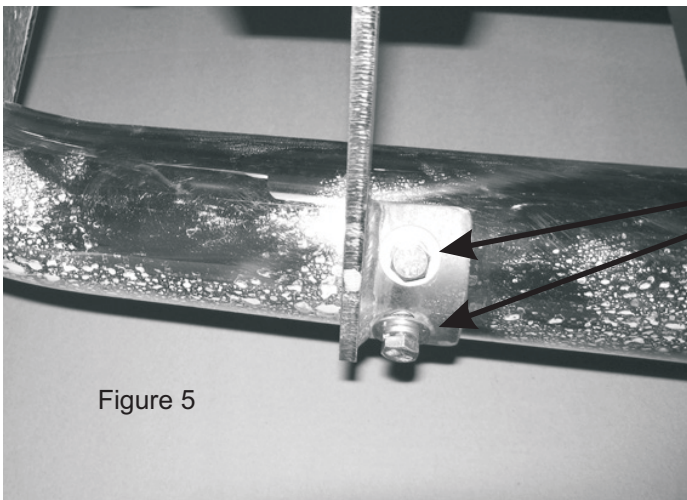

Figure 5
6. Position Driver Side Bar onto brackets. Attach Side Bar to Mounting Brackets using the included (4) 8-1.25mm x 25mm Hex Head Bolt, (4) 8mm Lock Washers, and (4) 8mmFender Washers (Figure 5). Do not tighten at this time.